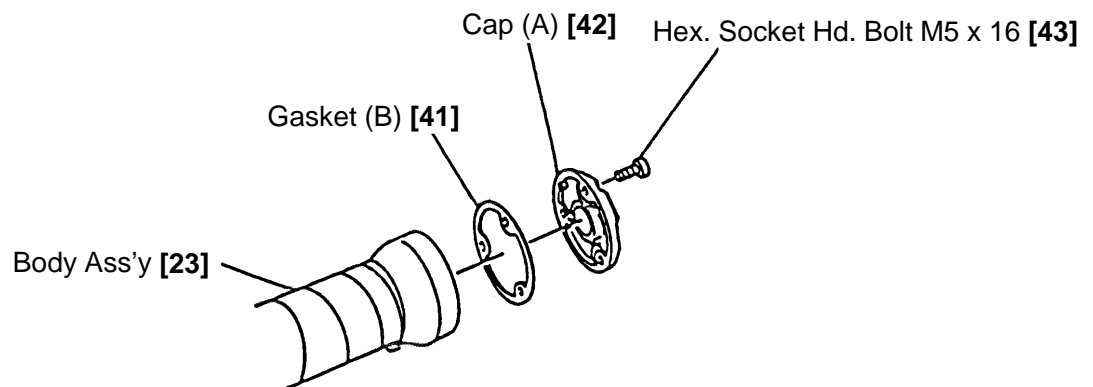

Fig. 19 Disassembly and Reassembly of the Cap
(1) Disassembly and Reassembly of the Cap (See Fig. 19.)